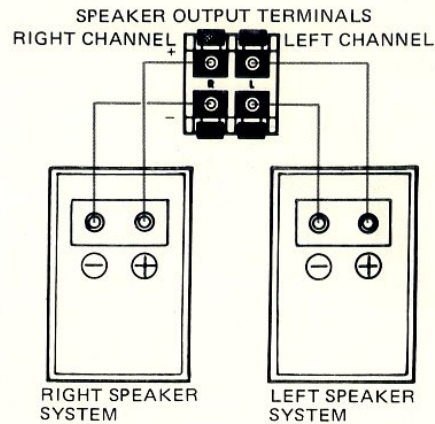

Fig. 2
As shown in Fig. 2, connect the terminals marked R to the RH-speaker systems (the speaker which is on the right-hand side as viewed from the listening position), and the terminals marked L to the LH-speaker systems.
- As shown in Fig. 2, the upper (red) socket is the positive (+) terminal, and the lower (black) is the negative (-) terminal in each case.